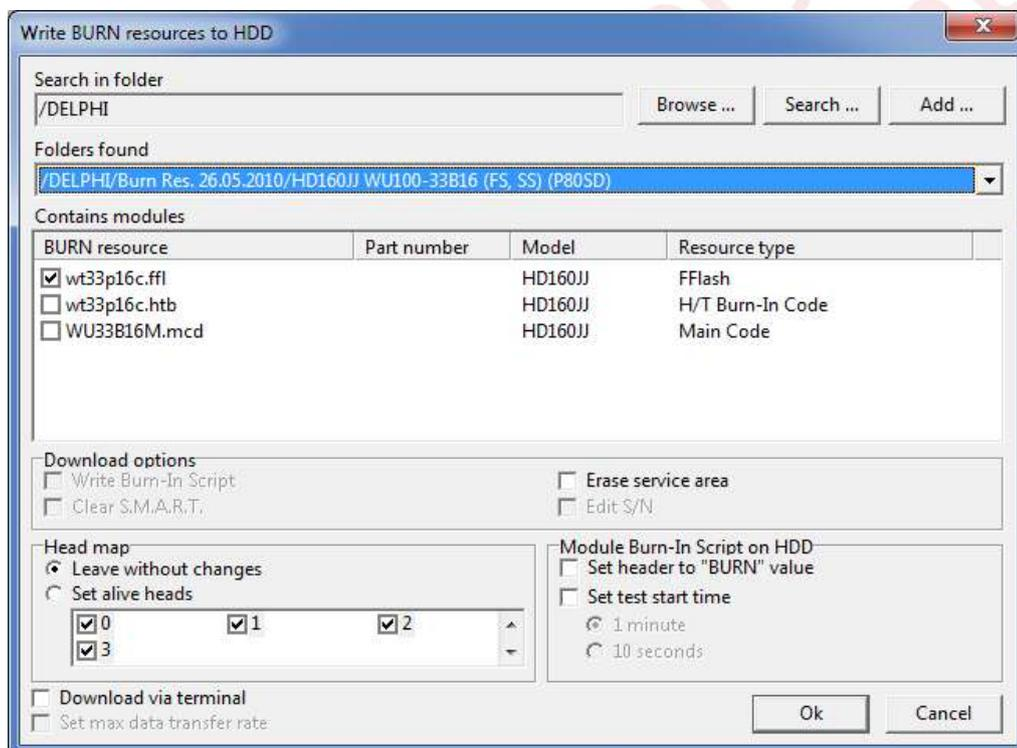

Fig.8.17.
- ◆ Select the «Write BURN resources to HDD» command (*see section 5.3.4.2*) and specify the burn resource compatible with the drive model (*Fig. 8.17*).
- ◆ Deselect all additional loading options, leave the heads map unchanged. If you are recording the resource through terminal, enable the option to «Download via terminal» (*Fig. 8.17*).